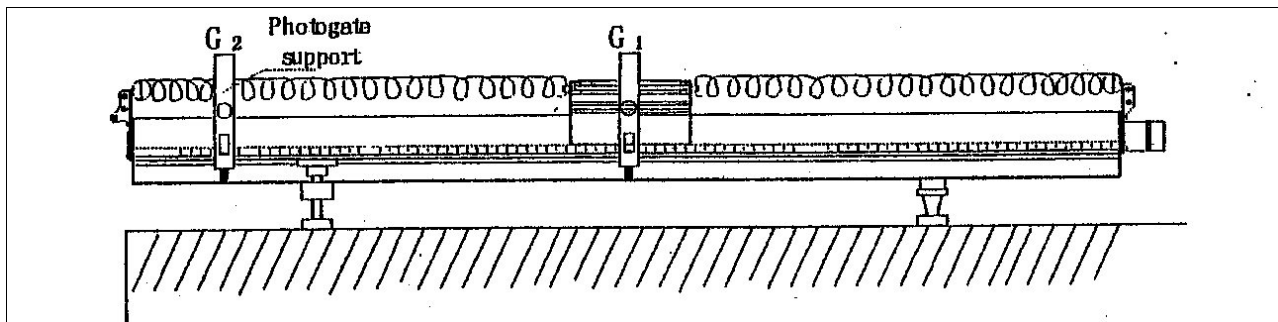

Figure 4.5: Simple Harmonic Motion
- Step 1: Set up the apparatus as shown in Figure 4.5. Level the track as described in paragraph 3.3. Install a spring on each of the end stop brackets. Install a photogate at the 60cm position.